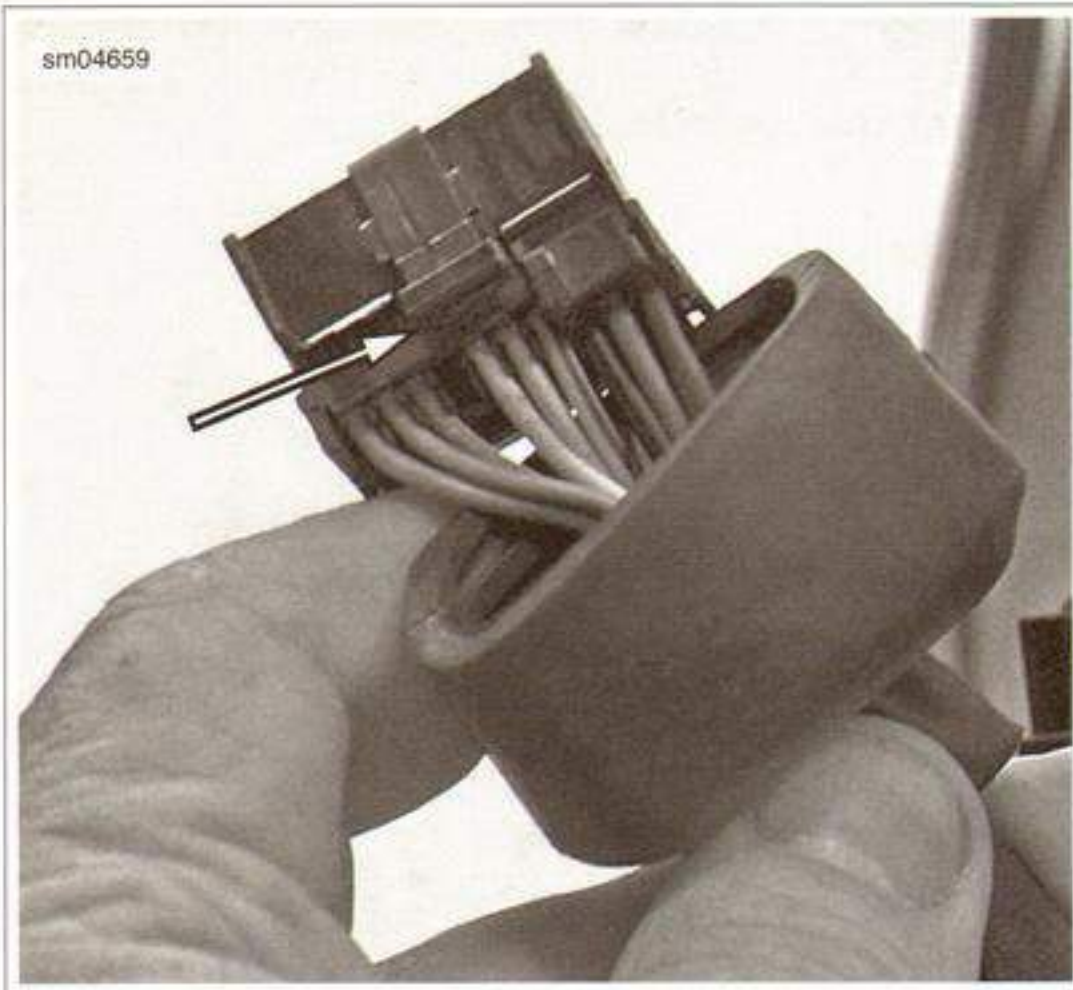

Figure 2-129. Instrument Module Connector Latch
5. See Figure 2-129. Press on the top latch to separate the socket housing from the instrument module.